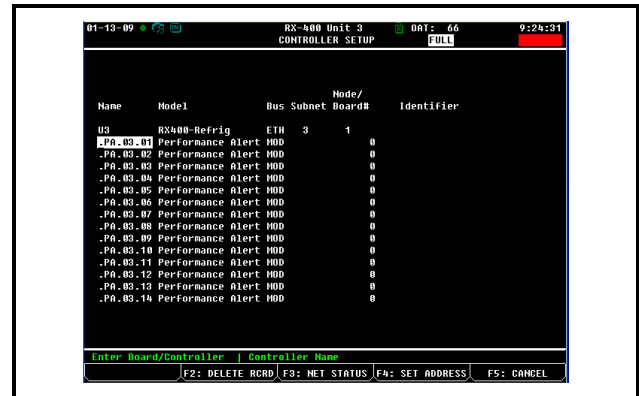

Figure 5-2 - Controller Setup Screen (Before Commissioning PerformanceAlert)
1. Login and press   to navigate to the Controller Setup screen (*Figure 5-2*).